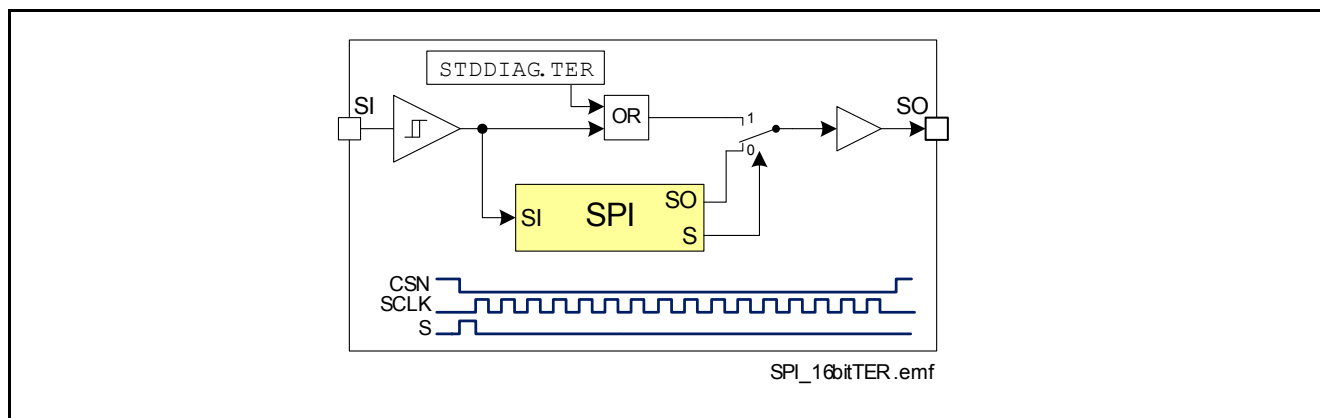

Figure 28 Combinatorial Logic for TER bit
- **TER** Flag will set the Bit number 10 in the STD diagnosis Frame. This Bit is set to HIGH after an undervoltage condition, reset via SPI command, on Limp Home state entering or after an incorrect SPI transmission. **TER** Flag can be read also directly on the SO line between the falling edge of the CSN and the first rising edge of the SCLK according to the Figure 28.